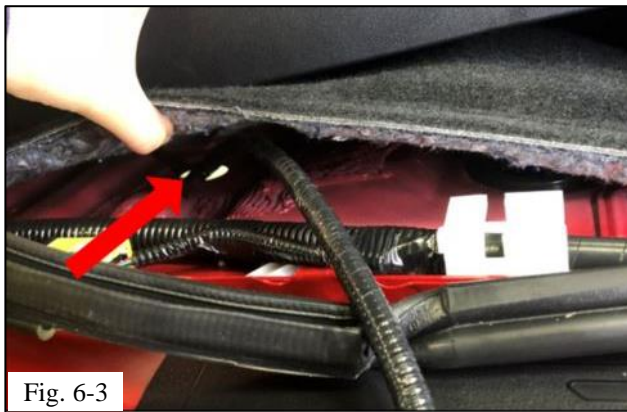

Fig. 6-3
- (c) Route the body wire harness through open hole previously occupied by the vehicle body grommet from the front passenger compartment to underside of the vehicle (Fig. 6-3).